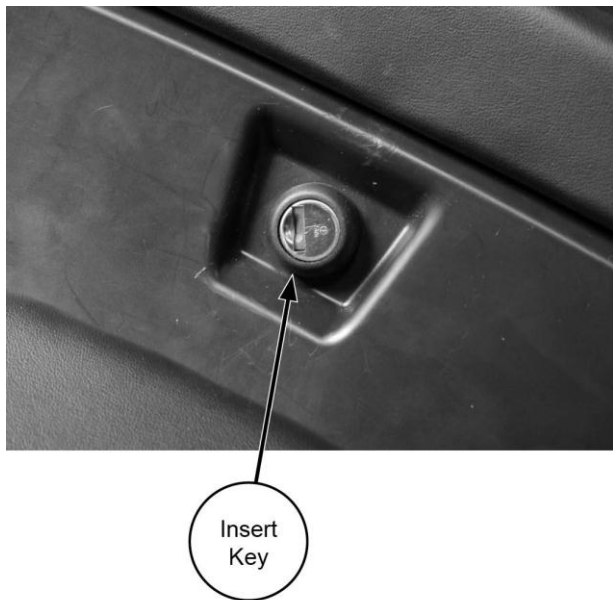

Figure 20.
- To remove this, insert key into the rider seat back panel and unlock the passenger seat. See figure 20.